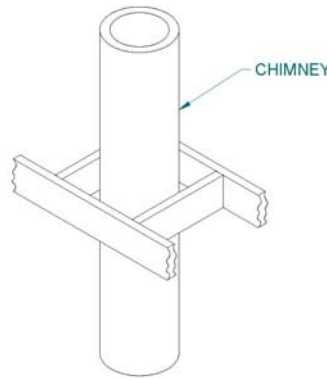

Figure 37
1. Cut and frame the holes in the ceiling, floor and roof where the chimney will pass and install rafter protectors (see figure 37). Use a plumb bob to line up the center of the holes. Make sure that the size of the floor and ceiling holes are in accordance with the chimney manufacturer's instructions.